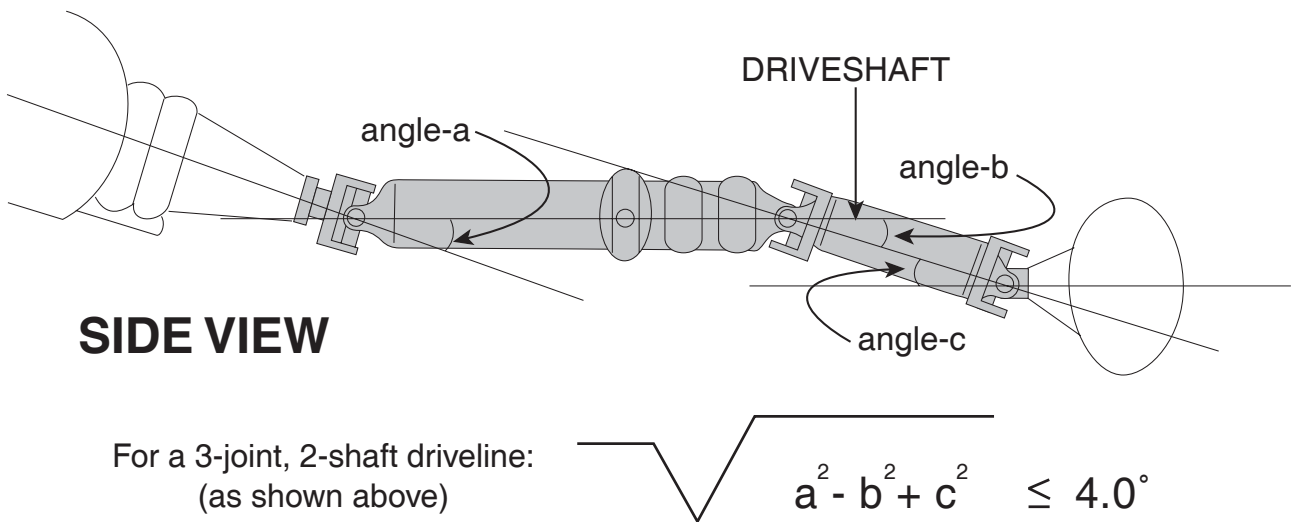

Figure 20
6. Refer to Figure 20 and the *Checking Driveline Angles* section at this time. If angles are acceptable, proceed with torquing the U-bolts and pivot bolts.
- b. Condition #2: When added together, the operating angles throughout the driveline **MUST** cancel. The operating angles at either end of a shaft should be within 1° of each other or at least satisfy the following formula in order to provide adequate cancellation (Figure 20).